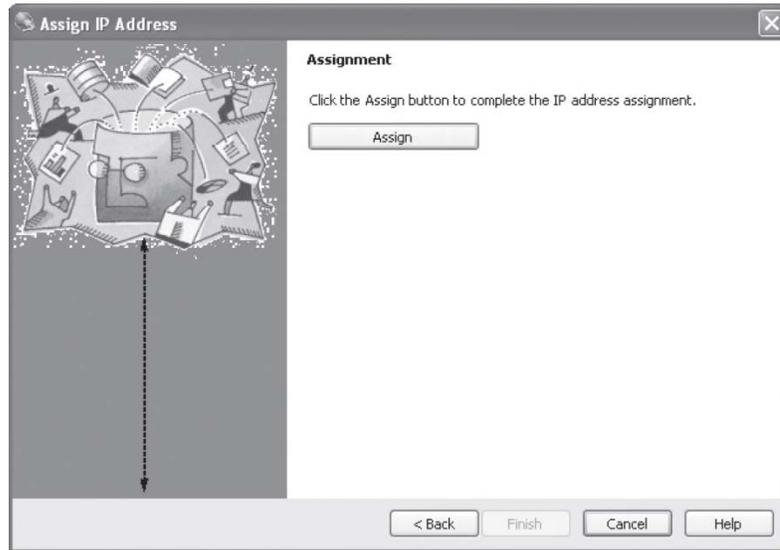
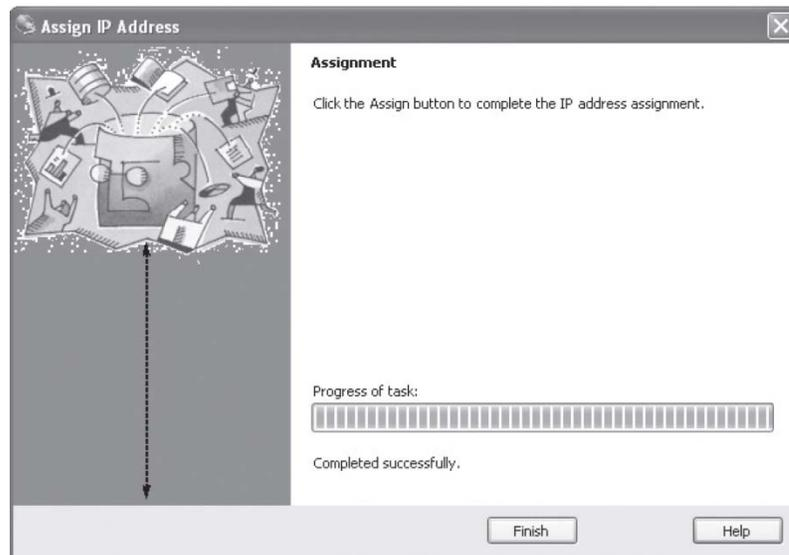

Figure 26: Assignment screen with the Assign button
Figure 27: Assignment screen with "Progress of task:" bar
9. When the "Assignment" screen appears (as shown in figure 26) press the **Assign** button to begin the process of assigning the new IP address. The Assignment status screen will show the progress of the current task, as seen in figure 27.